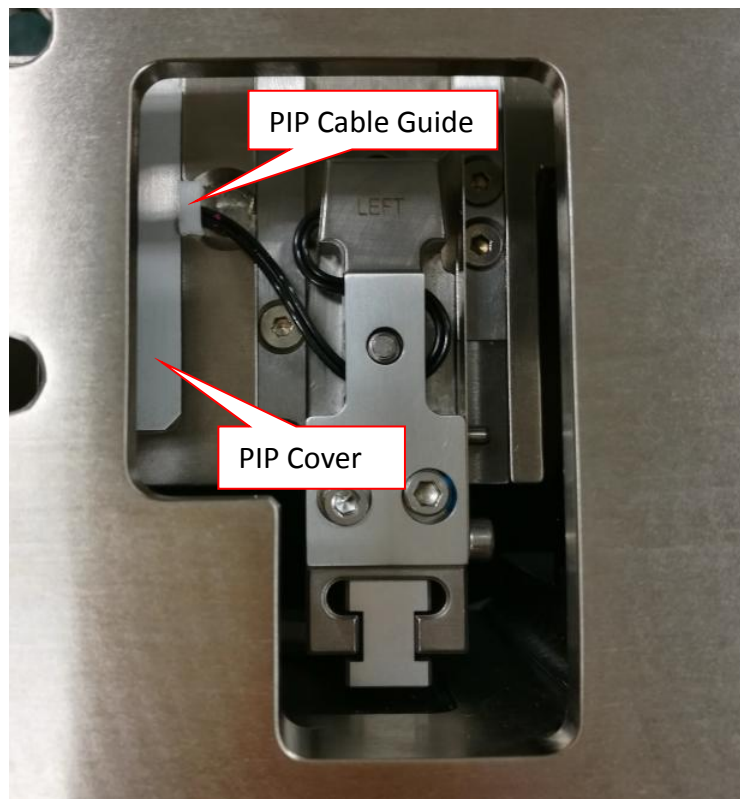

Figure 12 PIP Sensor Cable Routing
5. Assemble PIP Cable Guide & PIP Cover as shown in Figure 12.